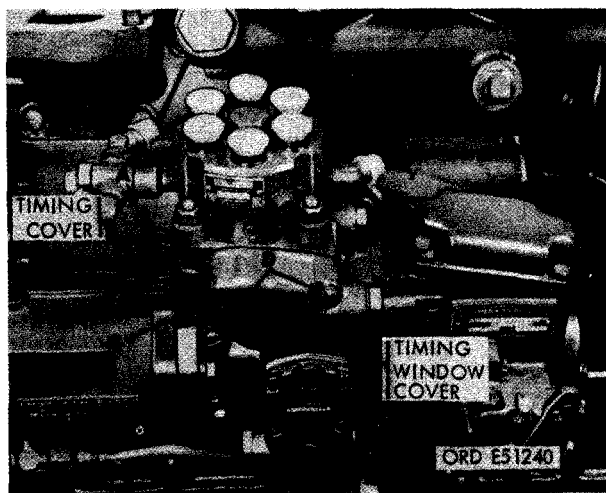

FIGURE 501. INSTALLING TIMING COVER, TIMING WINDOW COVER, AND CONNECTING FUEL INJECTION PUMP OIL INLET HOSE.
- (7) Figure 501. (A) Position injection pump automatic advance unit timing cover on advance unit opening using a new gasket. (B) Secure timing cover with four 1/4- inch lock washers and 1/4 x 5/8 machine screws. (C) Position timing window cover over opening in fuel injection pump assembly using a new gasket. (D) Secure cover with two 1/4- inch lock washers and 1/4 x 1- 1/4 filler-head screws. (E) Connect fuel injection pump oil inlet hose to special tee connection in automatic advance unit.
- (e) After timing is correct, install timing covers and connect oil inlet hose (fig. 501).